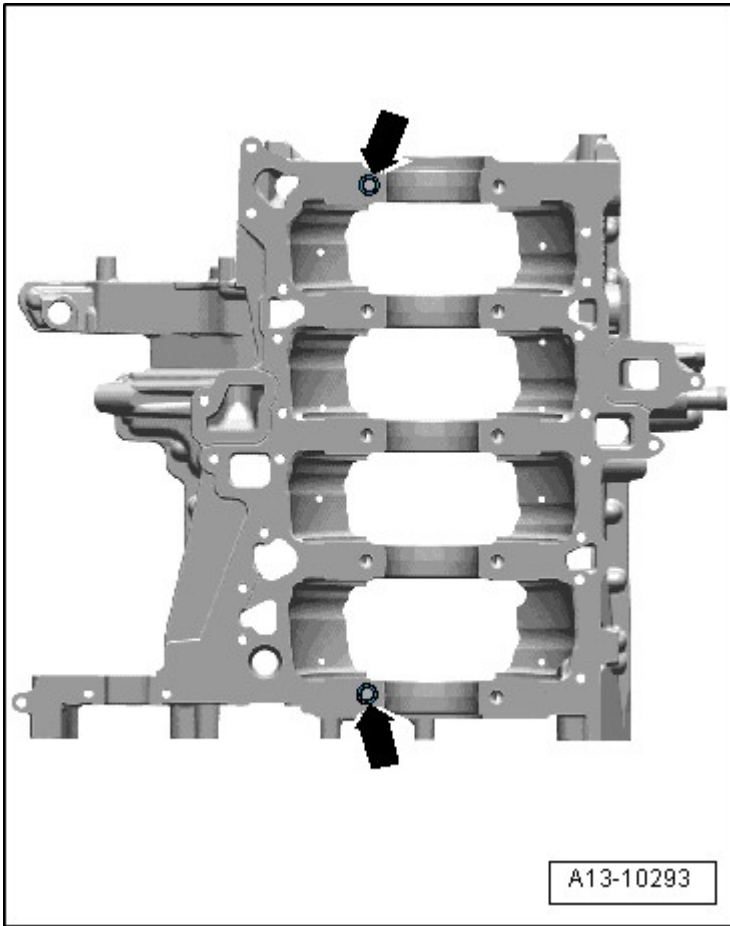

Fig. 4: Installation Position Of Alignment Bushings
- Installed position, refer to **Fig. 4**